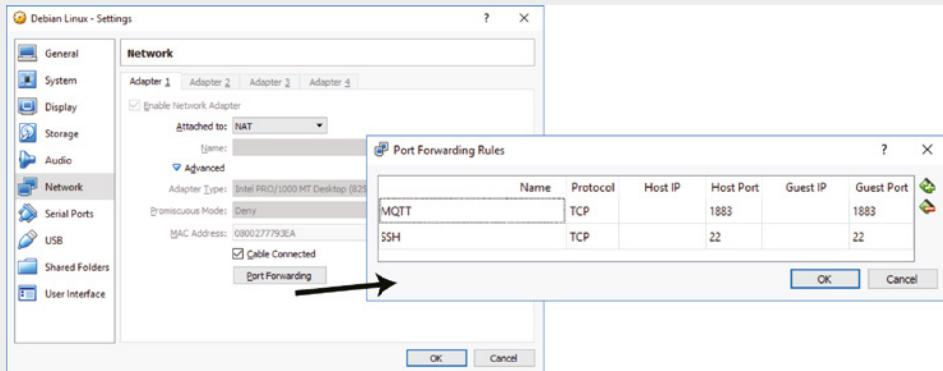

Figure 11-16: NAT rules for a virtual machine MQTT configuration
If you are using a Linux virtual machine (VM) as the MQTT broker, then your Beagle board will need to be able to see the VM on the network. The easiest way to do this is to configure the VM to use network address translation (NAT) with port forwarding for port 1883. In this case, if a connection is made to your desktop machine (e.g., the Windows host OS) on port 1883, then it will pass on the connection to the VM (e.g., the Linux guest OS). This configuration is illustrated in Figure 11-16. You may have to shut down and restart your VM before these changes will propagate fully.